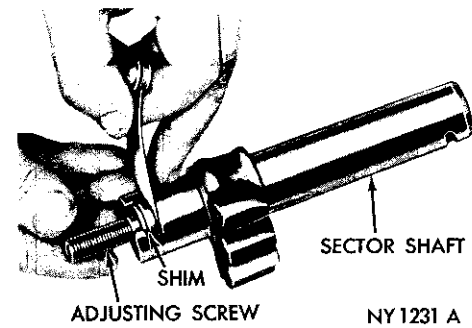

Fig. 12—Measuring Cross Shaft Adjusting Screw End Clearance
(31) After adjusting the preload, tighten the bearing adjuster lock nut, and then retest to be sure the preload remains between 1½ and 4½ inch-pounds.
(32) Before installing the cross shaft, pack the wormshaft cavities in the housing above and below the ball nut with steering gear lubricant. Use steering gear lubricant whenever possible, but if not available, a good grade of multi-purpose lubricant may be used. Do not use gear oil. When the gear is properly packed with steering gear lubricant it will contain eleven fluid ounces of lubricant, and the level of the lubricant will be at the top of the worm.
(33) Slide the cross shaft adjusting screw and shim into the slot in the end of the shaft.
(34) Test the end clearance (Fig. 12). The screw must be free to turn with no perceptible end play to .004 inch loose. Three different thickness shims are available to obtain the specified clearance.
(35) Start the cross shaft and adjuster screw into bearing in the housing cover. Then, using a screw driver through the hole in the cover, turn the screw counterclockwise to pull the shaft into the cover.
(36) Install the adjusting screw lock nut, but do not tighten at this time.
(37) Rotate wormshaft to centralize ball nut.
(38) Place a new cover gasket on housing cover.